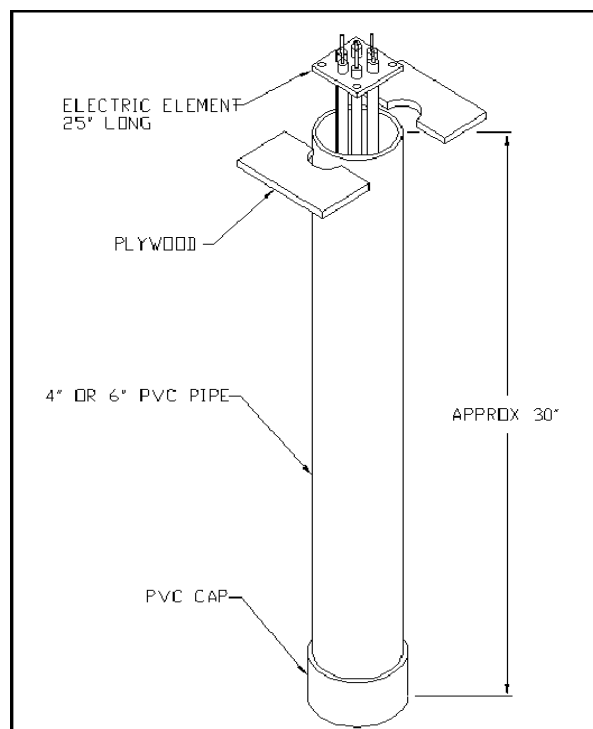

FIGURE 3
9. Electric immersion INCOLOY® sheath elements are wound at high wattage ratings and must be completely covered by water while in operation. Otherwise, they overheat and burn out. Scale from the water will collect on the sheathing of the element over a period of time and must be removed periodically to extend the life of the element. Water in some areas will produce the scale buildup more rapidly than other areas. The rapidity of the scale buildup is also determined by the watt density of the element. It is good maintenance practice to remove and clean 80 W/in² (18kW) density elements on a monthly basis. The interval between removal and cleaning can usually be extended to six months when 40 W/in² (9kW) density elements are installed. Most installations where 20 W/in² (4 1/2kW) density elements are used, require only annual cleaning. Elements are cleaned by soaking in a scale dissolving solution. A 30" piece of four or six inch PVC pipe with a cap on one end makes an ideal container for element cleaning. (See figure 3.) Contact a chemical supply house for advice on the proper cleaning solution for your area.